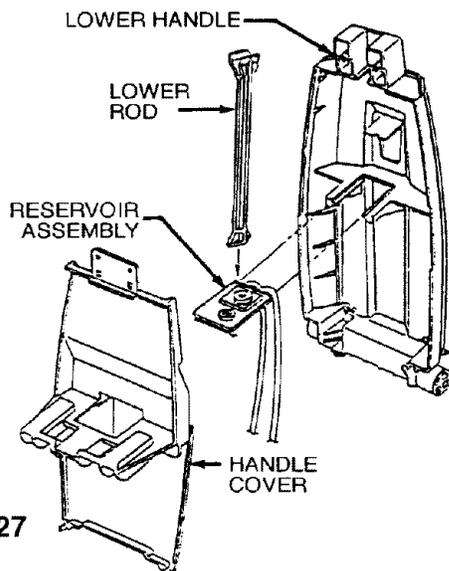

Fig. 27
1. Replaceable parts of the lower handle include the handle cover, lower rod, reservoir assembly and lower handle. (Fig. 27)